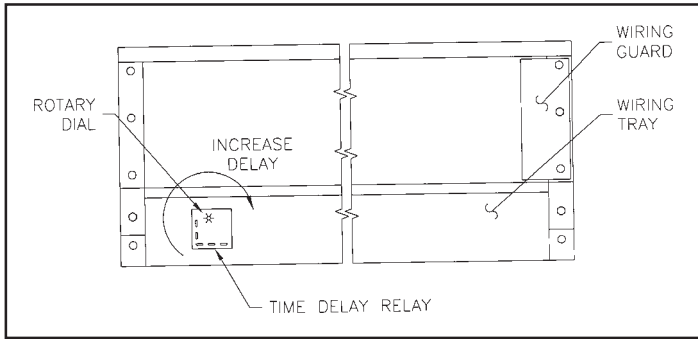

FIGURE 13 - Time Delay Adjustment
J. If your unit was provided with a Time Delay-Off Relay, it will be factory set at 15 seconds. If a longer delay-off is desired, adjust the rotary dial clockwise with a small screwdriver to preferred time setting. Each hashmark stands for 60 seconds with a maximum setting of up to 300 seconds. **See Figure 13.**